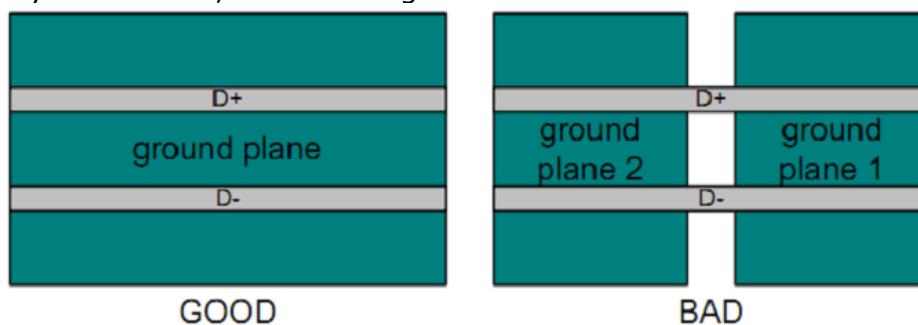
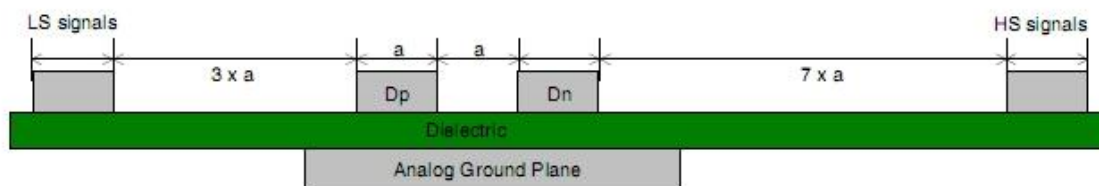

Figure 11-4
Figure 11-5 USB Layout
- In order to suppress EMI, the USB signal traces is recommended to be placed in the inner layer and ensure that the reference plane is continuous and complete, otherwise, it will cause discontinuities in the trace impedance and increase the external noise on them, shown as Figure 11-4. If tracing on the PCB surface, please shield by GND traces, shown as Figure 11-5.